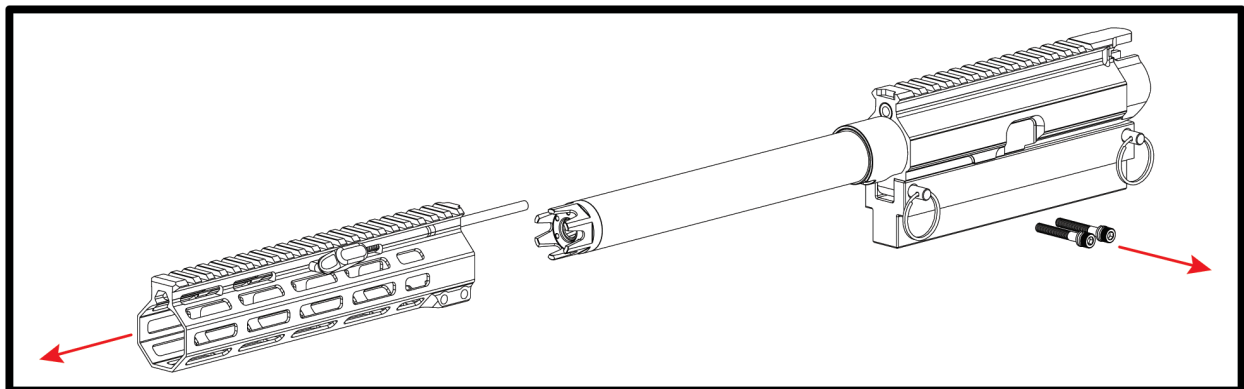

FIGURE 7.3 - Remove hardware and slide handguard forward
2. Slide the handguard forward and off the upper assembly. (FIGURE 7.3)